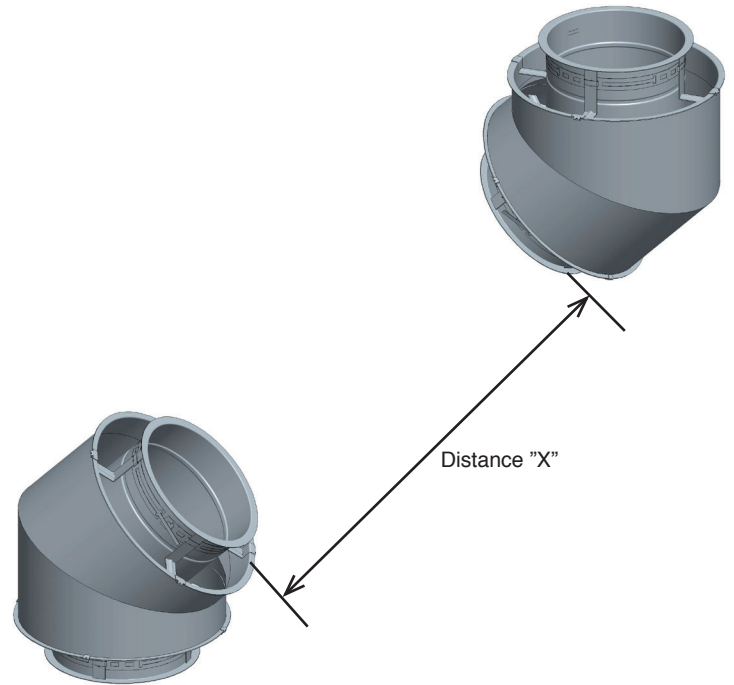

Figure 23 - Step 1 for Installation of Variable Length
1. Measure the distance X required for the variable length. See Figure 23.